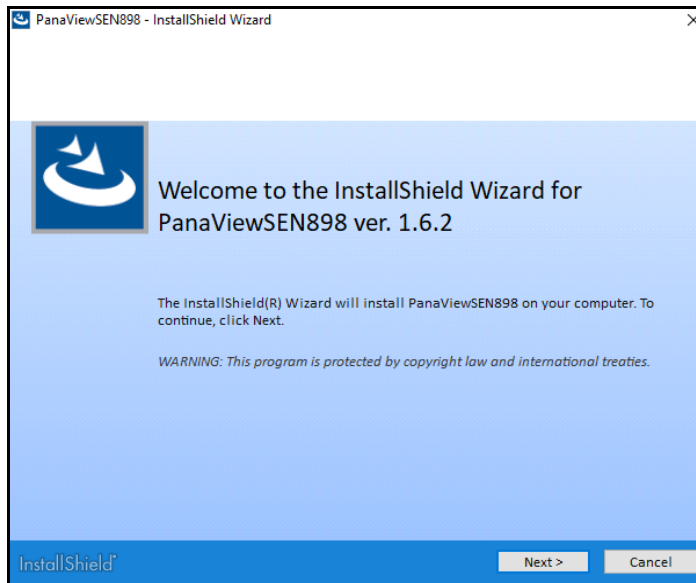

Figure 2: *Install-Shield* Wizard Screen
2. The *Install-Shield* wizard, shown in *Figure 2* below will launch and guide you through the installation process. Click [Next] button to continue.